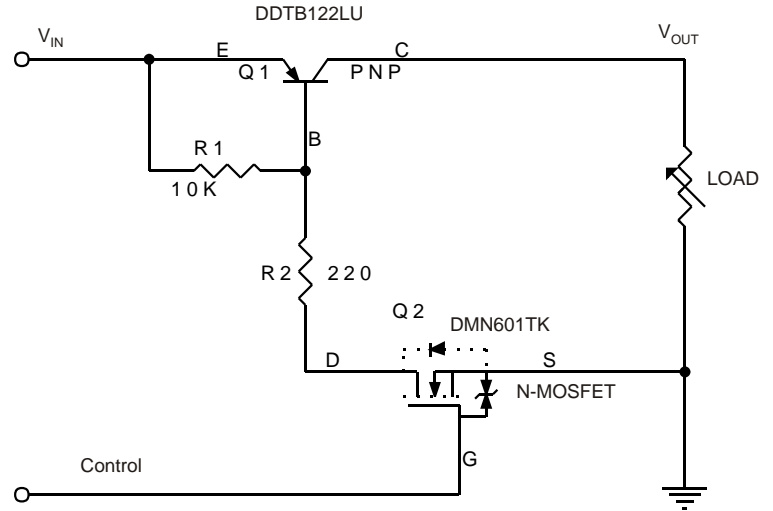

Fig 20 : Circuit Diagram
- PNP Transistor (DDTB122LU) and ESD Protected N-MOSFET (DMN601TK) integrated as one in LMN400E01 can be used as a discrete entity for general application or as an integrated circuit to function as a Load Switch. When it is used as the latter as shown in Fig. 20, various input voltage sources can be used as long as it does not exceed the maximum ratings of the device. These devices are designed to deliver continuous output load current up to a maximum of 400 mA. The MOSFET Switch draws no current, hence loading of control circuitry is prevented. Care must be taken for higher levels of dissipation while designing for higher load conditions. These devices provide high power and also consume less space. The product mainly helps in optimizing power usage, thereby conserving battery life in a controlled load system like portable battery powered applications. (Please see Fig. 21 for one example of a typical application circuit used in conjunction with a voltage regulator as a part of power management system).